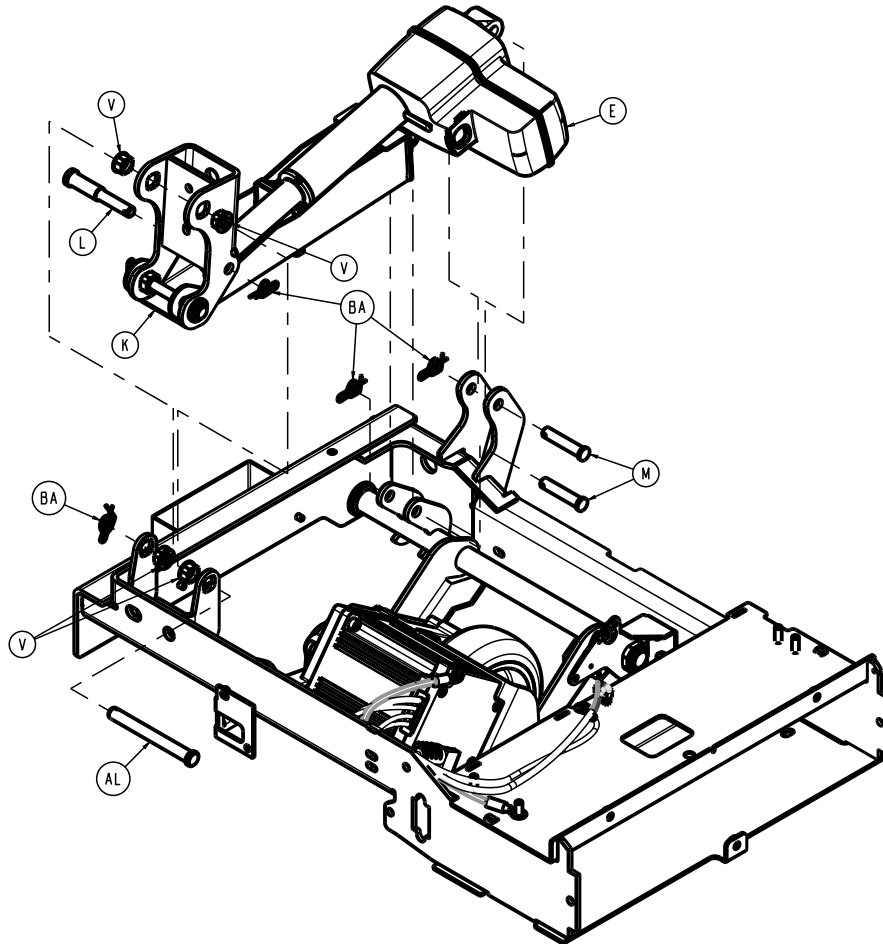

Figure 67 – Removing the Zoom actuator
9. Using needle nose pliers, remove the rue ring cotter (BA) from the actuator ram pin (L) and clevis pin (AL) (Figure 67). Save the rue ring cotter.
10. Lift up on the **Zoom** motor drive wheel and remove the clevis pin (AL) and actuator ram pin (L) (Figure 67). Save the clevis pin and ram pin.
11. Using needle nose pliers, remove the rue ring cotter (BA) from the actuator base pin (M) (Figure 67). Save the rue ring cotter.
12. Holding the actuator, remove the actuator base pin (M) (Figure 67). Save the base pin.
9. Using needle nose pliers, remove the rue ring cotter (BA) from the clevis pin (AL) (Figure 67). Save the rue ring cotter.
10. Lift up on the **Zoom** motor drive wheel and remove the clevis pin (AL) (Figure 67). Save the clevis pin.